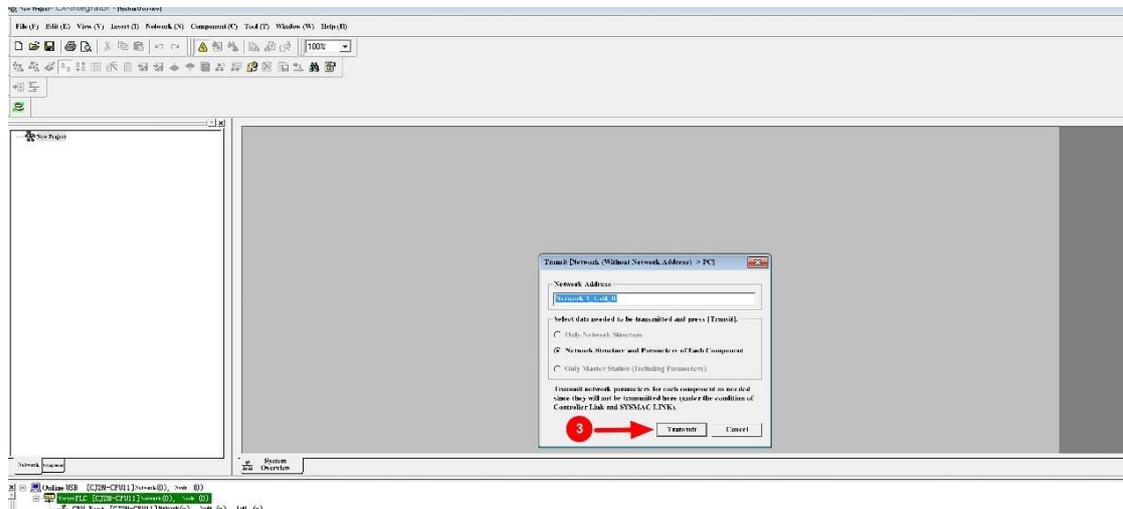

Fig.5-5-5 Automatic Scanning
As for the Auto scanning, Click “Online Working Button” , Double- Click DeviceNet[CJ1W-DRM21] Network ( - ) , Node (1), unit (0), and name the network to confirm the transmission, as shown in Fig.5-5-5. Double click DN-HH00-C0NN, then you can check if OMRON PLC scanned to DN-HH00-C0NN slave station.